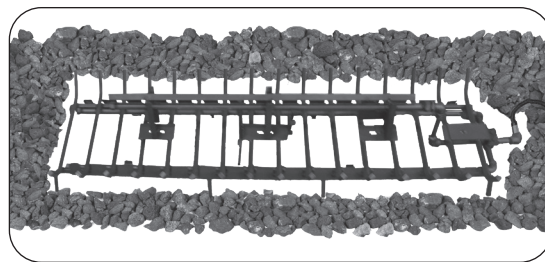

Fig. 12-1 Place lava coals
1. Spread the lava coals on the floor of the fireplace, around all sides of the burner system (see Fig. 12-1).